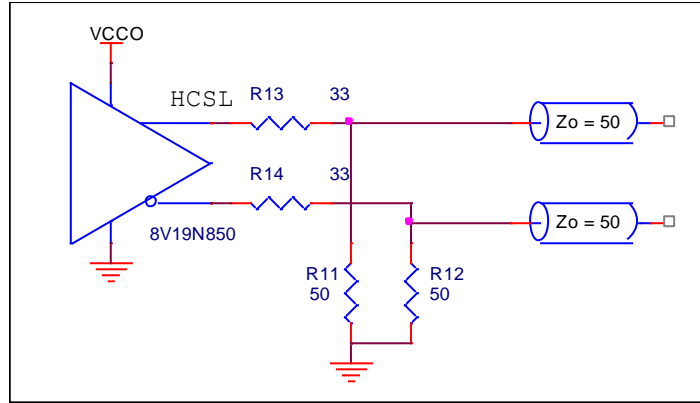

Figure 4. HCSL Driver Example
- Figure 4. HCSL Driver Example3